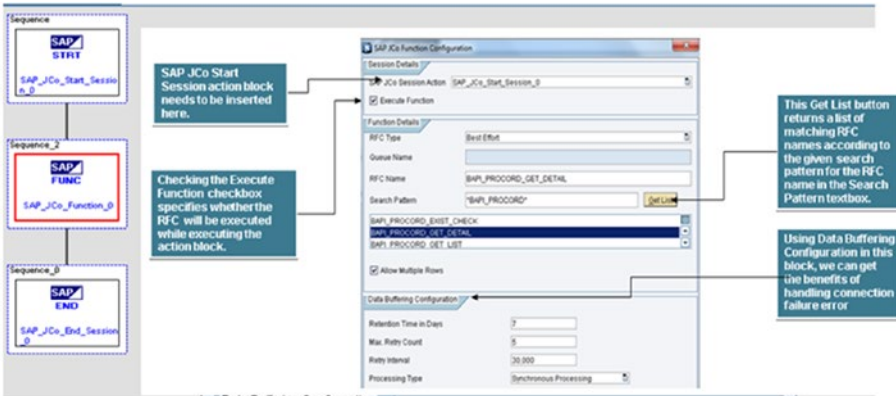

Figure 7-171. SAP JCo function action block and its configuration
- **SAP JCo Function:** This action performs a function during a session between SAP MII and SAP ERP Central Component (SAP ECC). See Figure 7-171.